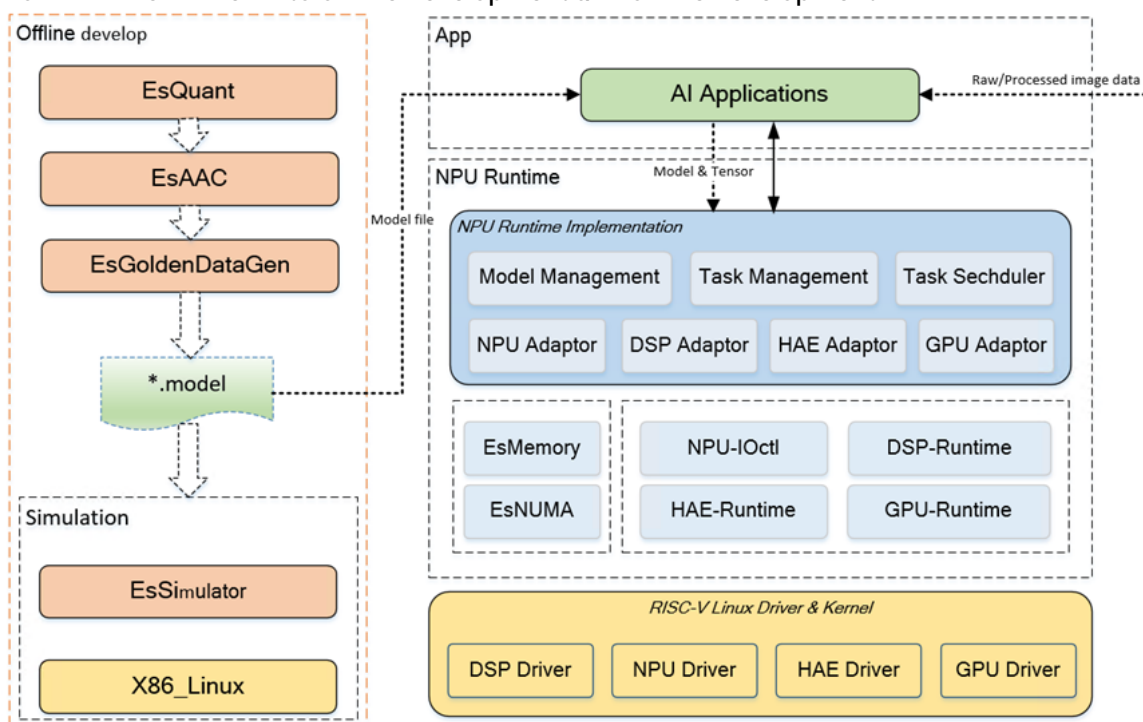

Figure 1-1 ENNP software stack diagram
Figure 1-1 includes EsQuant quantization tools, EsAAC model compilation tools, EsGoldenDataGen reference data generation tools, and EsSimulator simulation verification tools. These belong to the ENNP offline development tool suite. Using the above tool suite, the algorithm model trained by the artificial intelligence framework (TensorFlow, PyTorch, Caffe, and ONNX, etc.) can be converted into a unified intermediate expression (IR) and generate an offline model, while providing end-to-end model optimization, offline model generation and verification, etc. For detailed information on each suite tool, please refer to the corresponding chapter.